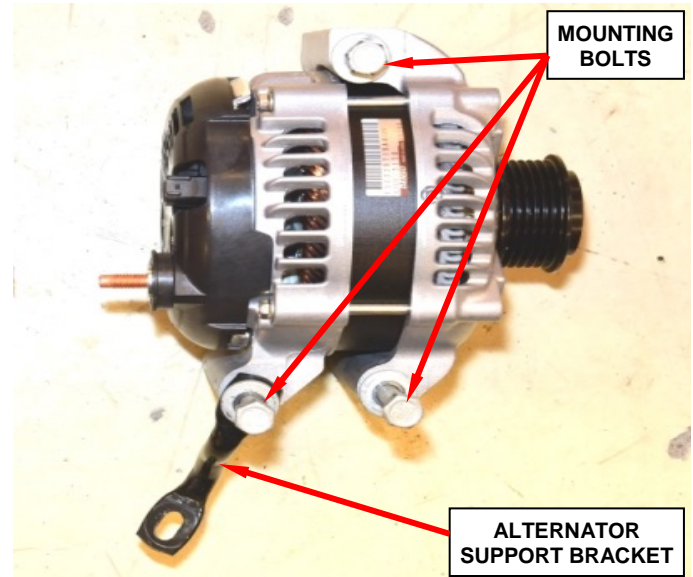

Figure 14 – Alternator Support Bracket
6. Remove and save the alternator support bracket-to-engine mount retaining nut (Figure 14).